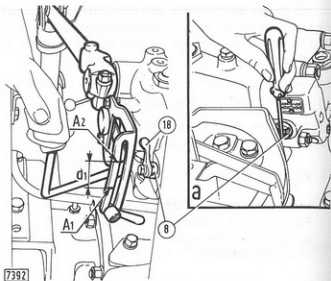

Fig. 227 - Checking Lift Spool Response
Spool response depends on the position taken up in neutral by spool cam (6) relative to unload valve actuator (7). This position can be altered through response adjuster (8) via lever (18, Fig. 227).